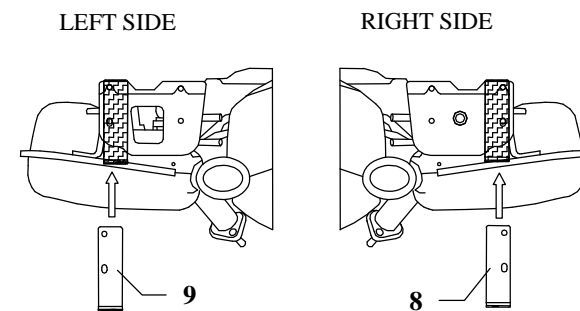

Fig. 3. Fitting of bumper's handles
7. Fix handles of the bumper (pos. 8 and 9) using original bolts as shown in fig. 3.
8. Fix tow-ball (pos. 2) with socket plate (pos. 3) using bolt M12x75mm (pos. 10) and bolt M12x70mm (pos. 11) from accessories.